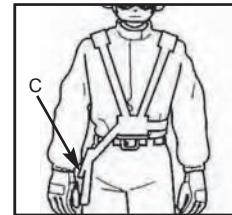

Fig. 8A
2. Attache the harness clip (C) to the ring (D) mounted on the shaft (Fig. 8A and 8B).